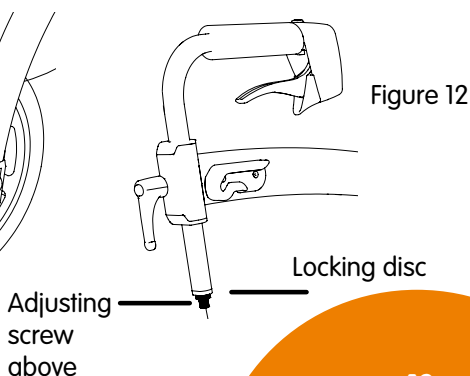

Figure 12
While squeezing the hand brakes, the Rollz Motion should be unable to move. After releasing the hand brakes, the Rollz Motion should be able to move freely. Test the brake function before each use. If stopping performance is not adequate, there are two ways to adjust the brakes. The adjustment screw by the rear wheel is for basic or significant adjustment. The adjustment in Figure 12 beneath the locking knob at the end of the handlebar is for fine-tuning brake performance. Make sure both the left and right side are adjusted properly.
2. Adjustment above (Figure 12)